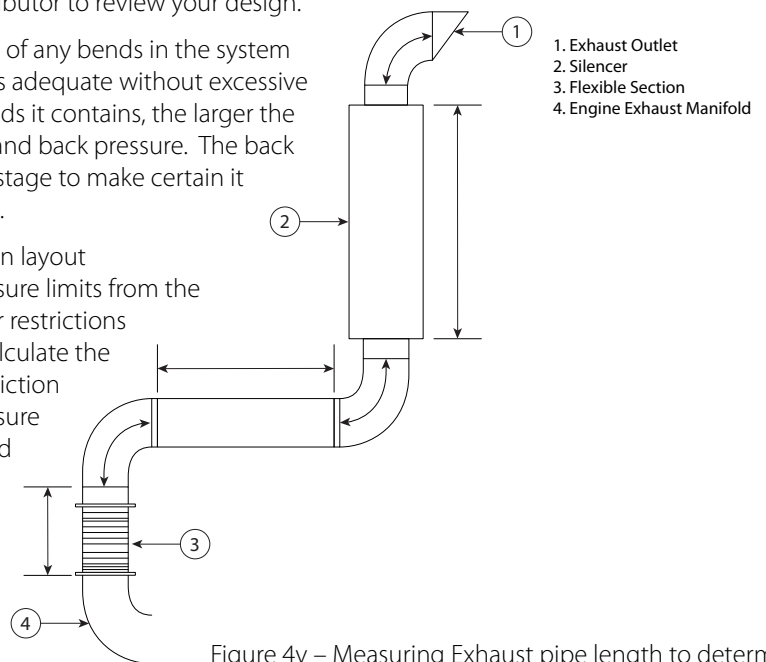

Figure 4v – Measuring Exhaust pipe length to determine
- A flexible connection between the exhaust manifold and the piping system should be used to prevent transmission of engine vibration to the piping and the building and to allow for thermal expansion and any slight misalignment of the piping (see Figure 4v).
Measure the exhaust pipe length from your installation layout (see Figure 4v). Take exhaust flow data and back pressure limits from the generator set engine specification sheet. Allowing for restrictions of the exhaust silencer and any elbows in the pipe, calculate the minimum pipe diameter so that the total system restriction will not exceed the recommended exhaust back pressure limit. Allowance should be made for deterioration and scale accumulation that may increase restriction over a period of time.